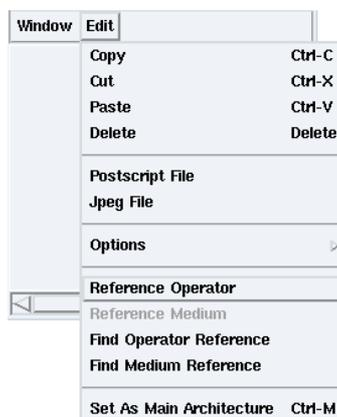

Figure 1.15: Edit / Reference Operator
- to create a reference to the operator `Uinout`, **Edit / Reference Operator** (cf. figure 1.15) → dialog window: click **user**, double click **Uinout** → dialog window: `u1`,